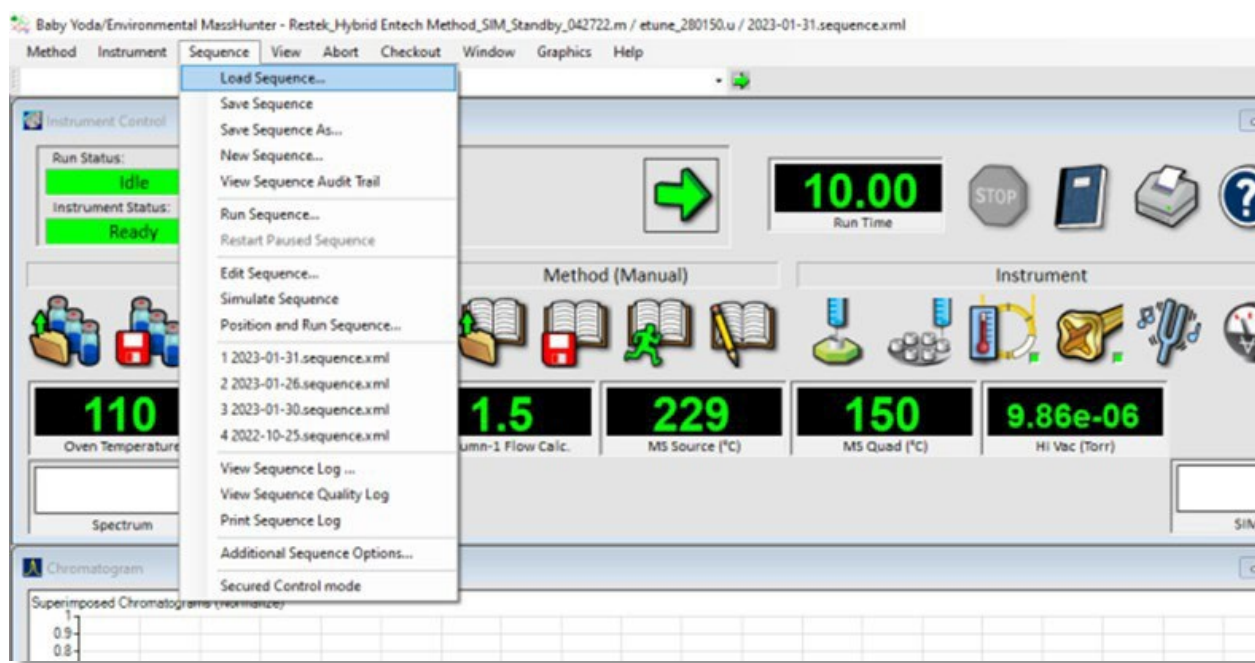

Figure 23. Select Load Sequence.
1. Click the **Sequence** tab on the toolbar and select **Load Sequence** from the drop-down menu (Figure 23).